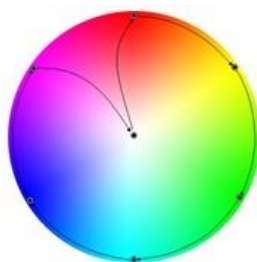

Figure 15. Colour Scan
- “[Ch] **RGB Colour**”: three-byte object which allows setting the luminosity of each component (between 0 and 255). Thus, the first byte represents the red channel (R) illumination, while the second byte represents that of the green channel (G) and the third one refers to the blue channel (B).
- “[Ch] **Colour Shift**”: two homologous objects of one-bit and four-bit size, respectively, to start or stop the colour scan function (Figure 15).